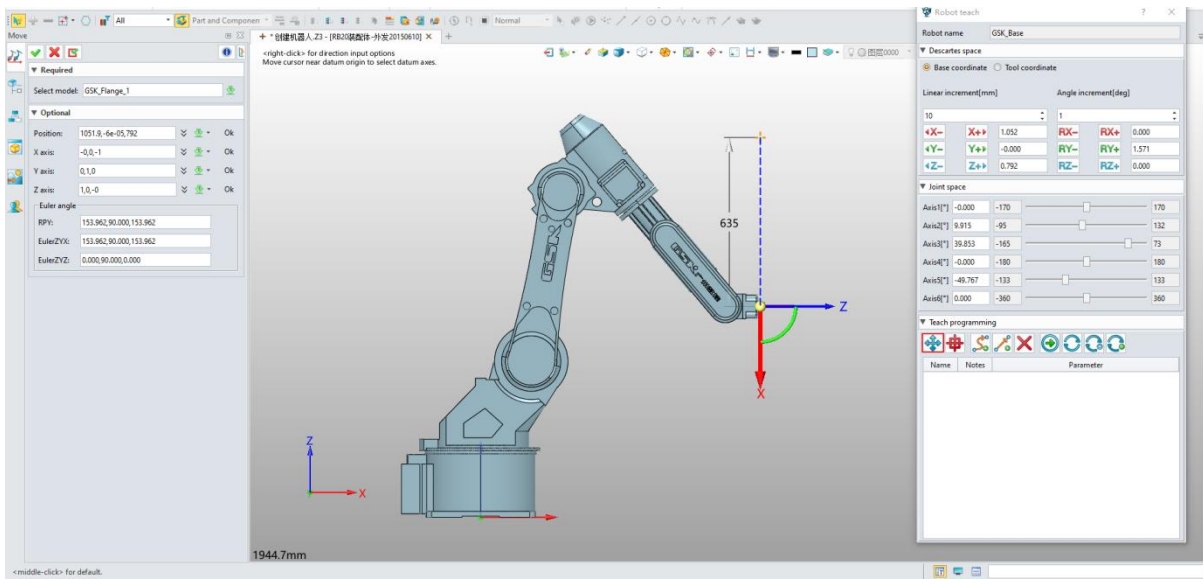

Figure 8-26: Drag Teach
- Click "Drag Teach" and Drag the XYZ axis to check if the robot is moving normally. (Figure 8-26)